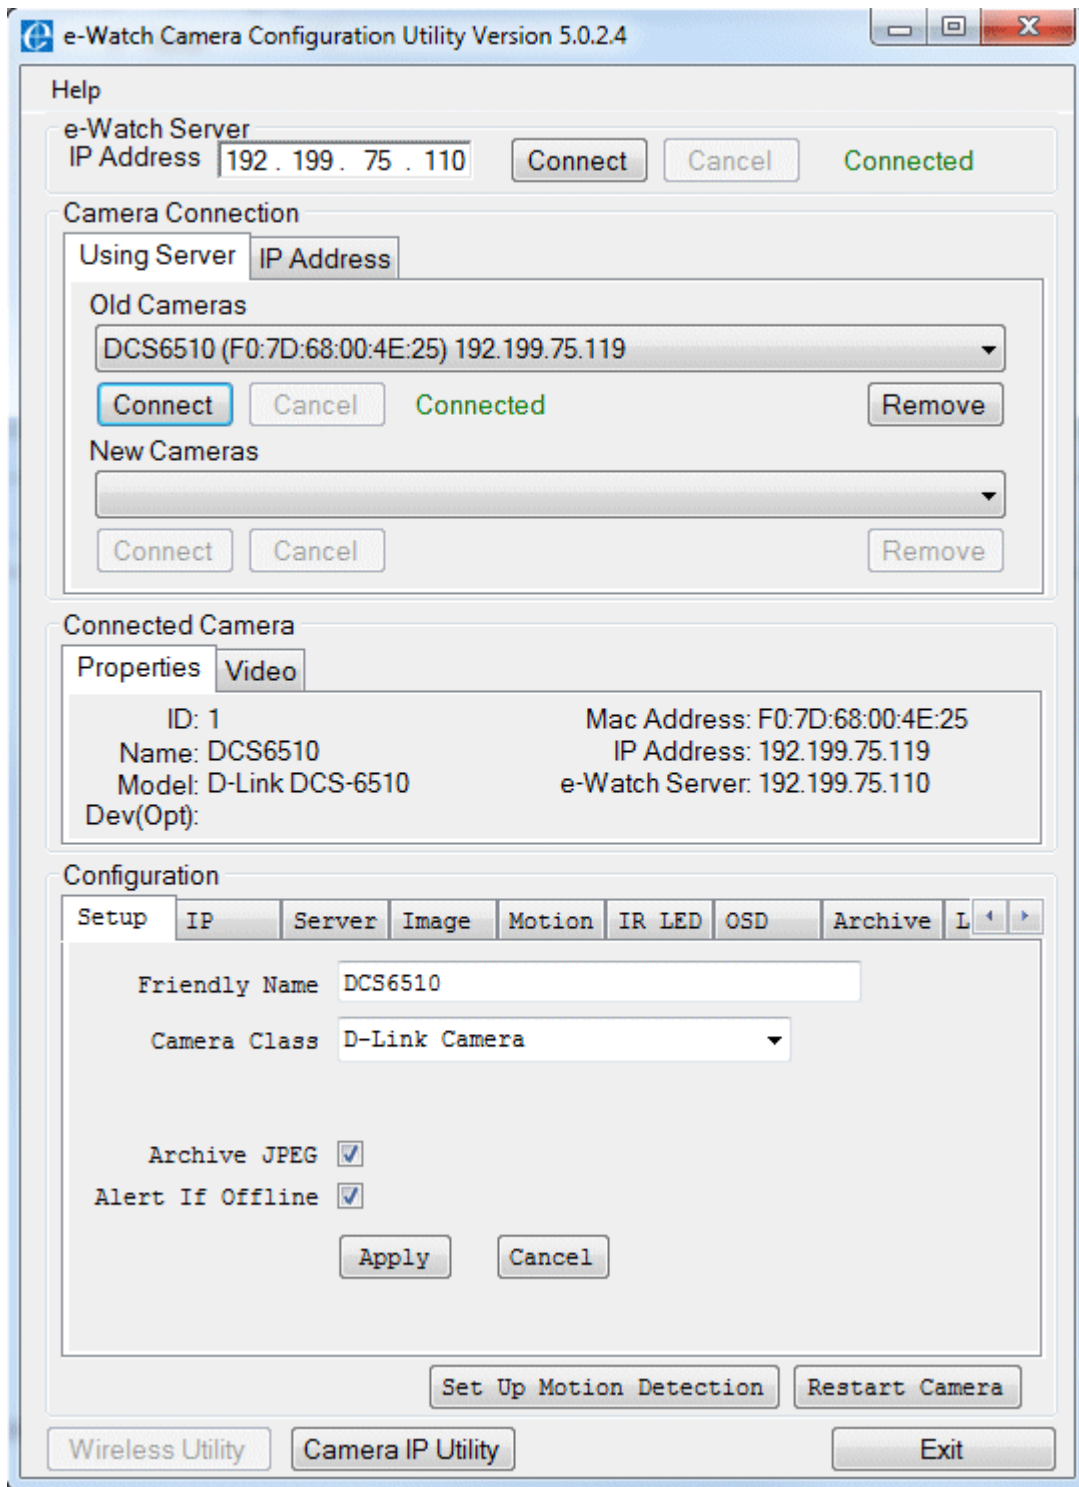

Figure 4-4. Motion Detection Using The Camera Configuration Utility
You can set up motion detection using the e-Watch Camera Configuration Utility. See Figure 4-4.
- Figure 4-4. Motion Detection Using The Camera Configuration Utility 14